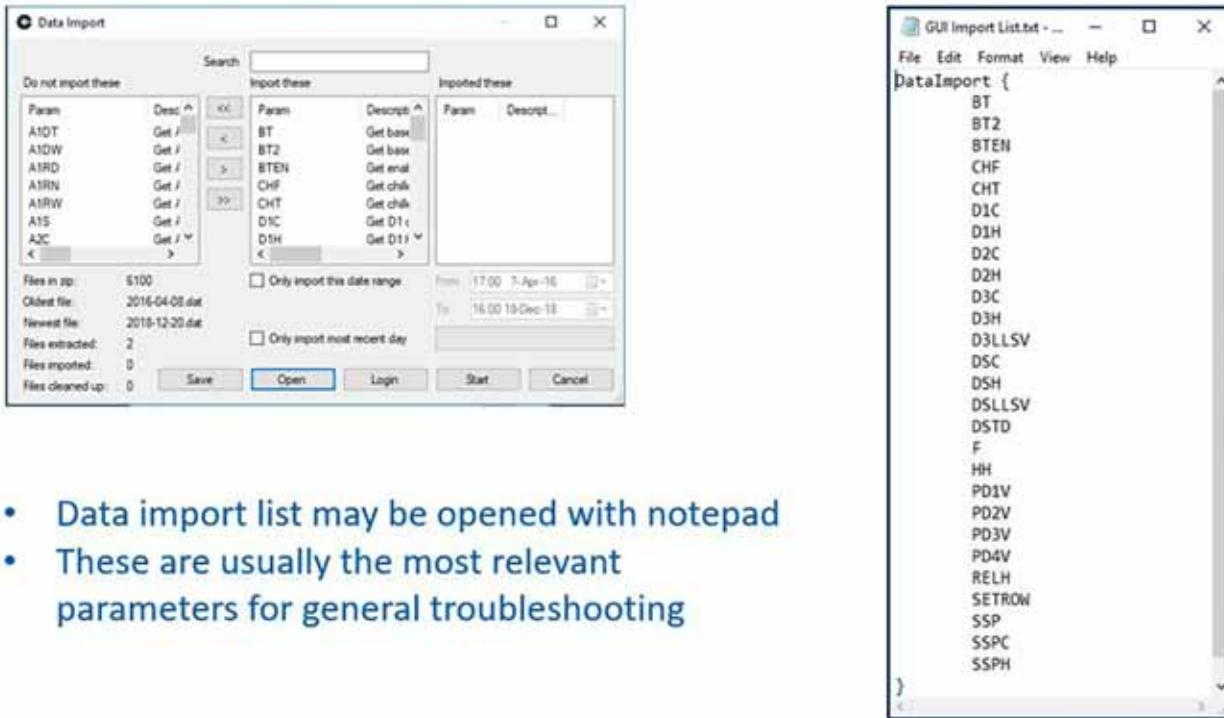

Figure 3.2-5. Data Import List (edit label in ppt)
5. The data import list may be opened with the Notepad application on your computer. Shown in Figure 3.2-5 are example parameters often used for troubleshooting.